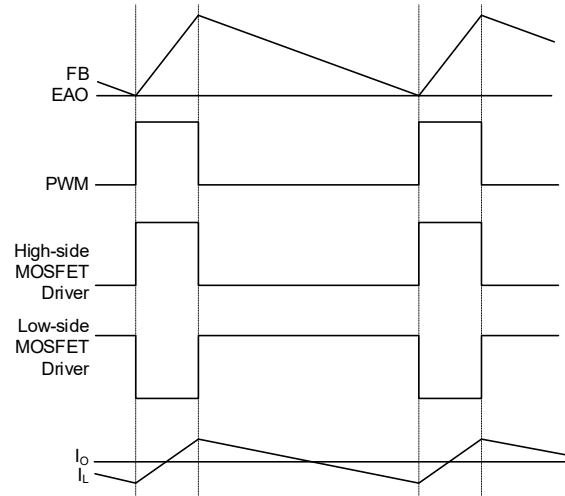

**Figure 3. COT Control**
The SGM611A13 uses constant-on-time (COT) structure to realize fast transient performance. Figure 3 shows the details of the control stage of SGM611A13. The error amplifier (EA) with a dedicated RGND pin corrects error voltage to achieve accurate remote output no matter in forced continuous conduction mode (FCCM) or pulse saving mode (PSM). The SGM611A13 adds internal ripple injection blocks to support low ESR MLCC output capacitor solution.